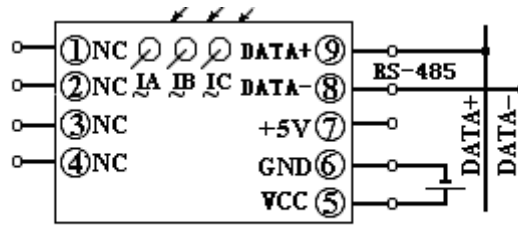

Fig. 3.4.4.3 Connections of CE-AI32, S3 case style.
3.4.4.2 See Fig. 3.4.4.4 for connections of CE-AI12 — 1 element treble isolation AC current digital transducer. N case style.